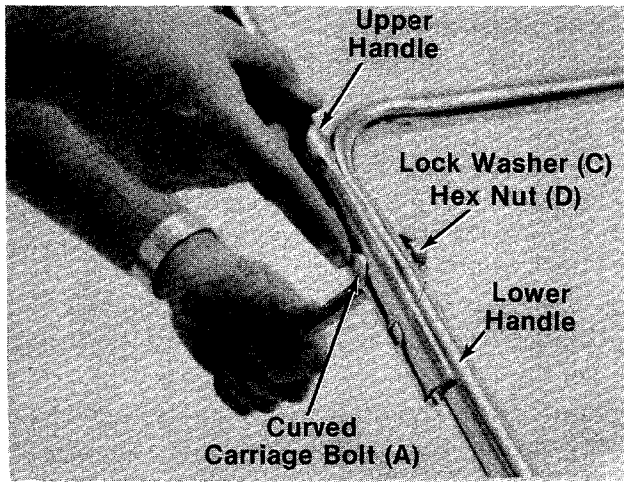

FIGURE 4. Non-Folding Handle Only
B. Units with Non-Folding Handle—Secure upper handle with two curved carriage bolts (A), lock washers (C) and hex nuts (D). See figure 4.